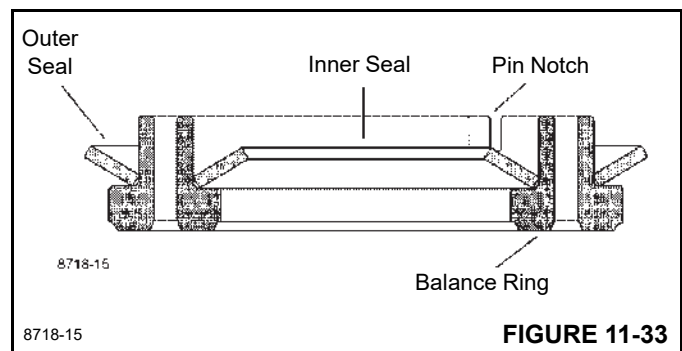

FIGURE 11-33
17. Apply petroleum jelly to inner and outer face seals. Install seals on balance ring as shown in Figure 11-33.
**Important:** Install face seals in the positions shown in Figure 11-33, or the motor will not operate properly. Do not force or bend the face seals. Any damage to these seals will affect the operation of the motor.